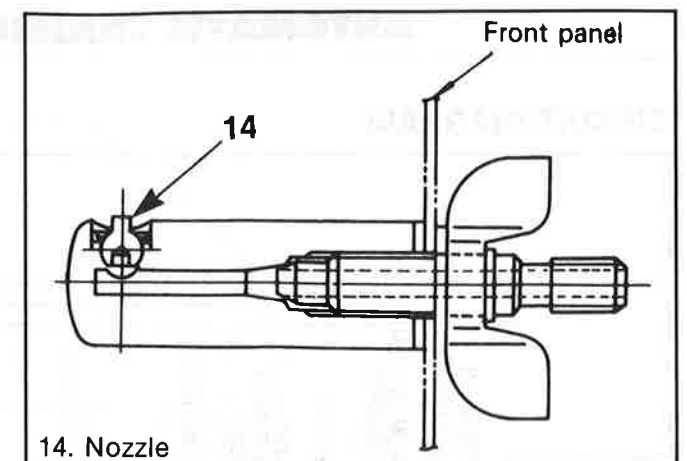

Figure 159. Windshield Washer Spray 1
- Adjust the washer spray angle by turning the washer nozzle (14) using a needle (figure 159).